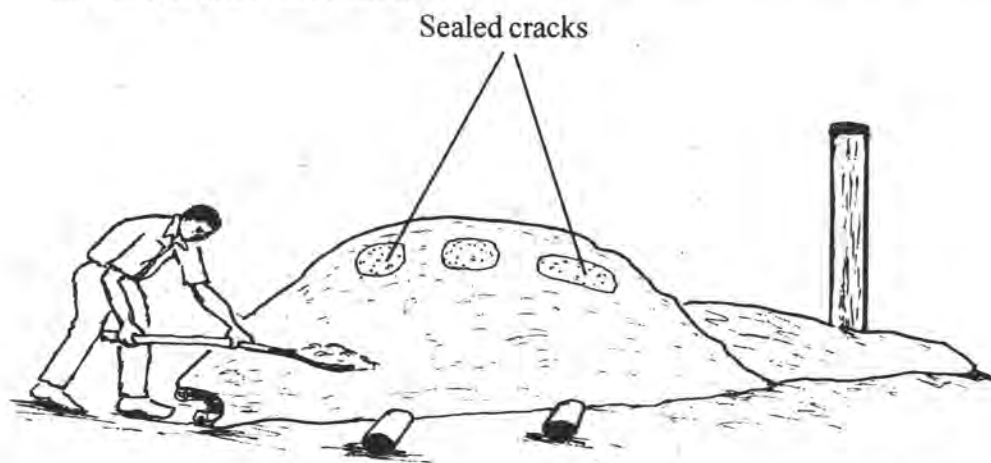

Figure 5.7 *Seal any cracks that appear in the mound with grass and soil. All the smoke should come out of the chimney*
8. All the smoke should come out though the chimney and therefore any cracks within the mound are sealed with soil (Figure 5.7). Once the wood near the lighting point has caught fire the lighting point is sealed off with leafy twigs, grass and then soil.